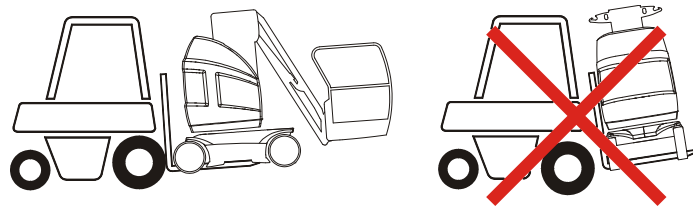

Figure 3-21. Lifting the Machine Using a Fork Truck
- Fork lift as shown in Figure 3-21.